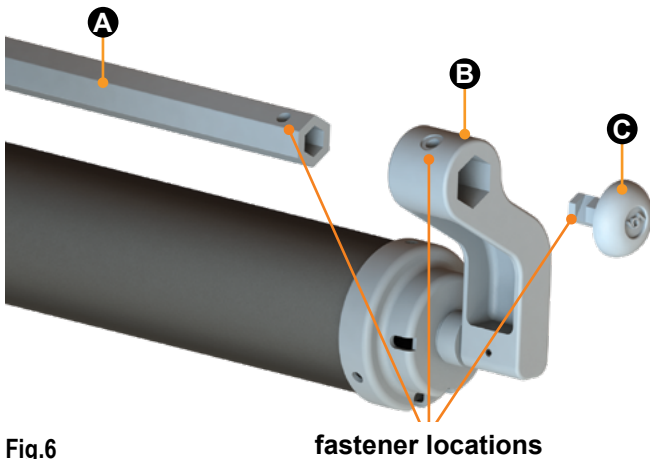
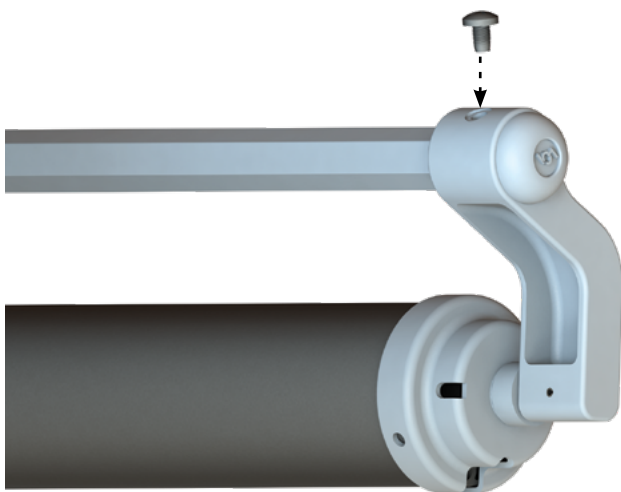
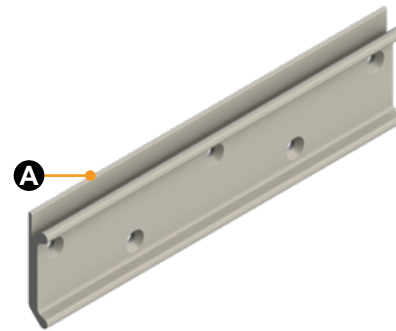

Fig.6
Fig.7
Fig.8
1. Slide the extension rod (Fig.6A) into the spring head assembly torsion arm (Fig.6B), aligning the fastener locations (Fig.6).
2. Slide the spring head assembly torsion arm end cap (Fig.6C) into the extension rod (Fig.6A), aligning all three fastener locations (Fig.6). Fasten using the provided $\frac{1}{4}$ " - 20 x $\frac{5}{8}$ " slotted pan head, self-tapping screw (Fig.7).
1. If The access plate (Fig.8) has **NOT** already been installed, it can be mounted with the flat edge (Fig.8A) at the top or bottom, depending on which option allows for a more square installation on the unit.
8. Install the two provided 1/4" - 20 x 1/2" set screws in the top two holes of the access bracket (Fig.19) if using the lower position (Fig.7). Install two set screws in the lower two holes of the access bracket (Fig.20) if using the higher position (Fig.8).